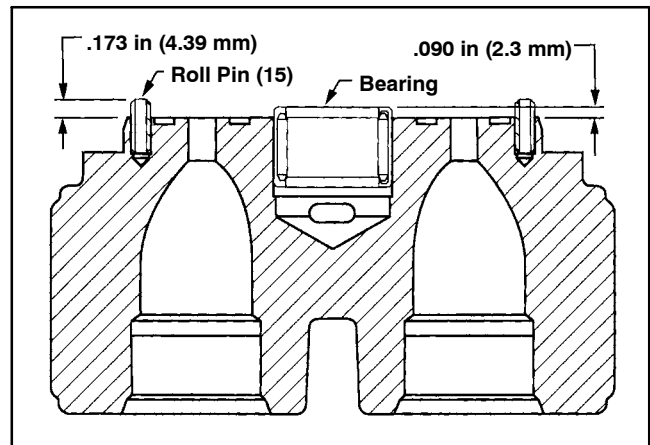

Figure 63
2. If necessary, install new needle bearing (17) in housing (3) with numbered end of the bearing outward.
3. Install retaining ring (9) on shaft. Install thrust race (10), thrust bearing (13), and second thrust race (10). Secure with second retaining ring (9).
4. Install shaft in housing. Install washer (18), new shaft seal (8), and retaining ring (6).
5. Install camplate insert (5) with the lettering side of insert to the front of the housing. Use petroleum jelly to hold in place during assembly.
6. Install rotating assembly (4) into housing. Make sure that piston shoes make contact with the camplate insert.
8. If roll pins were removed, install to dimension shown in Figure 63 and with opening of roll pin oriented away from bearing within 5 degrees of bearing center line.
9. To replace bearing (16) in backplate (2). Press bearing down to the dimension shown (Fig. 63) protruding from backplate with numbered end of bearing facing up next to valve plate.